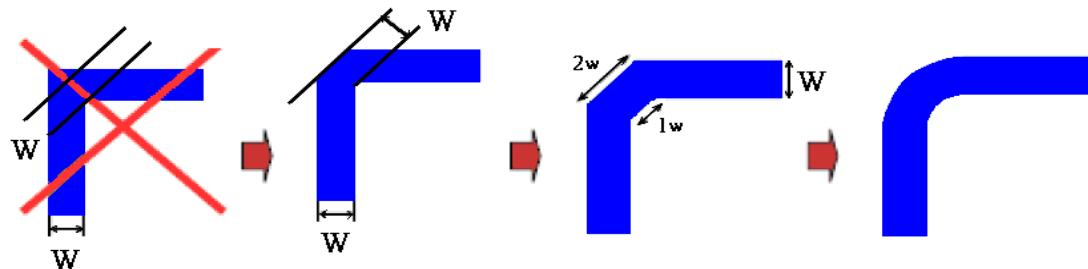

Fig.1 Turn Angle
1. If it's necessary to turn 90°, it's better to use two 45° turn or an arc, instead of making a single 90° turn as Figure 1. It can reduce reflection on the signal by minimizing impedance discontinuities.